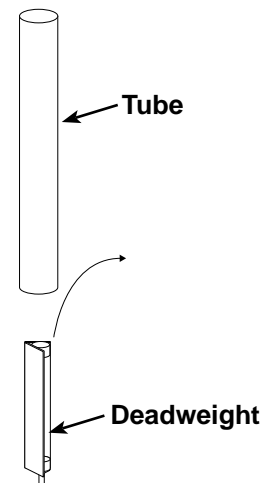

FIGURE 26
15. **Remove** deadweight from main vent assembly on rear of fryer by lifting tube. Deadweight is under tube (Figure 26). Rinse deadweight and tube (inside and out) with hot water at sink. Towel dry. Re-assemble deadweight and tube.